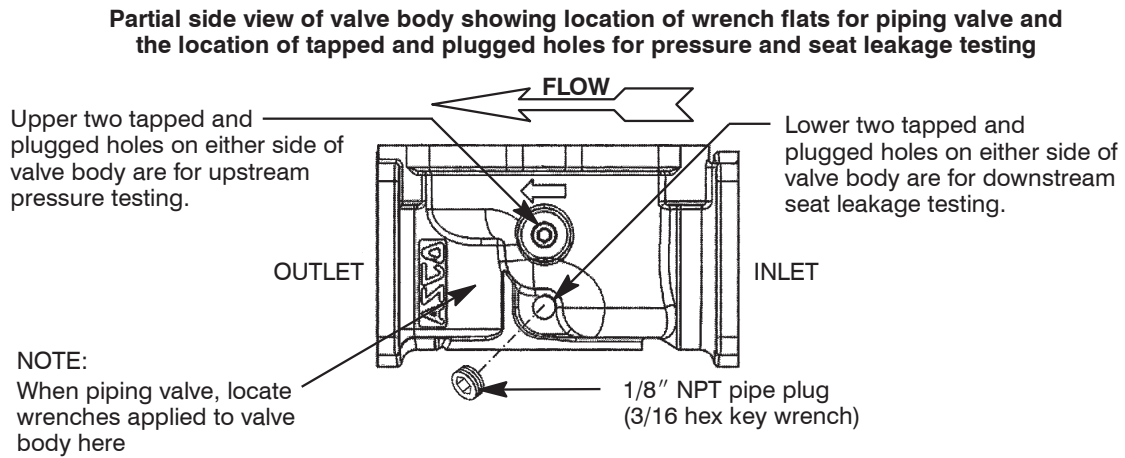

Figure 1. Provisions for wrench flats for piping valve and for pressure and seat leakage testing
Wrench flats for piping valve and provisions (tapped & plugged holes) for pressure and seat leakage testing not shown in this view, see Figure 1.
1. Wrench flats for piping valve and provisions (tapped & plugged holes) for pressure and seat leakage testing not shown in this view, see Figure 1.